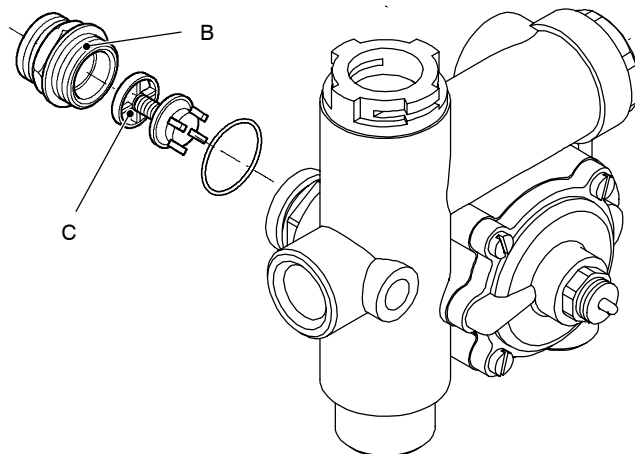
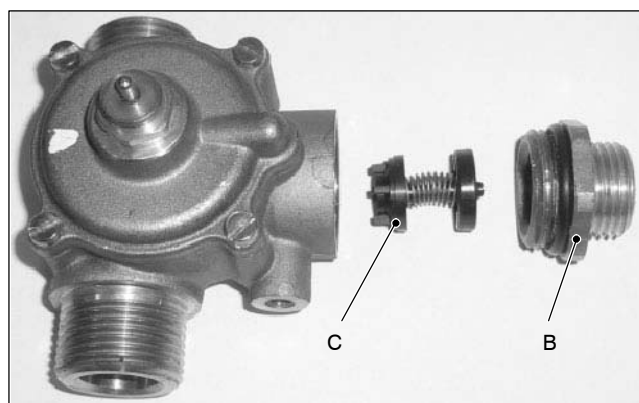

Fig. 16.2
Fig. 16.3
- 4 Unscrew the connector *B* and remove the by-pass valve *C* (Fig. 16.2) (Fig. 16.3).
- 5 Reassemble the by-pass valve as illustrated in Fig. 16.2 – Fig. 16.3 reversing the order of removal.